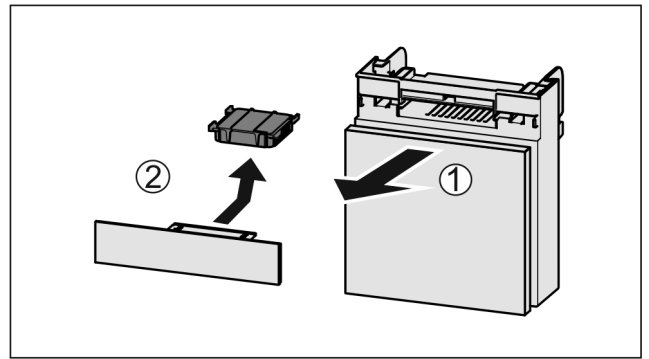

Fig. 232
- ▶ Pull out the compartment Fig. 232 (1).
- ▶ Remove the carbon filter Fig. 232 (2).